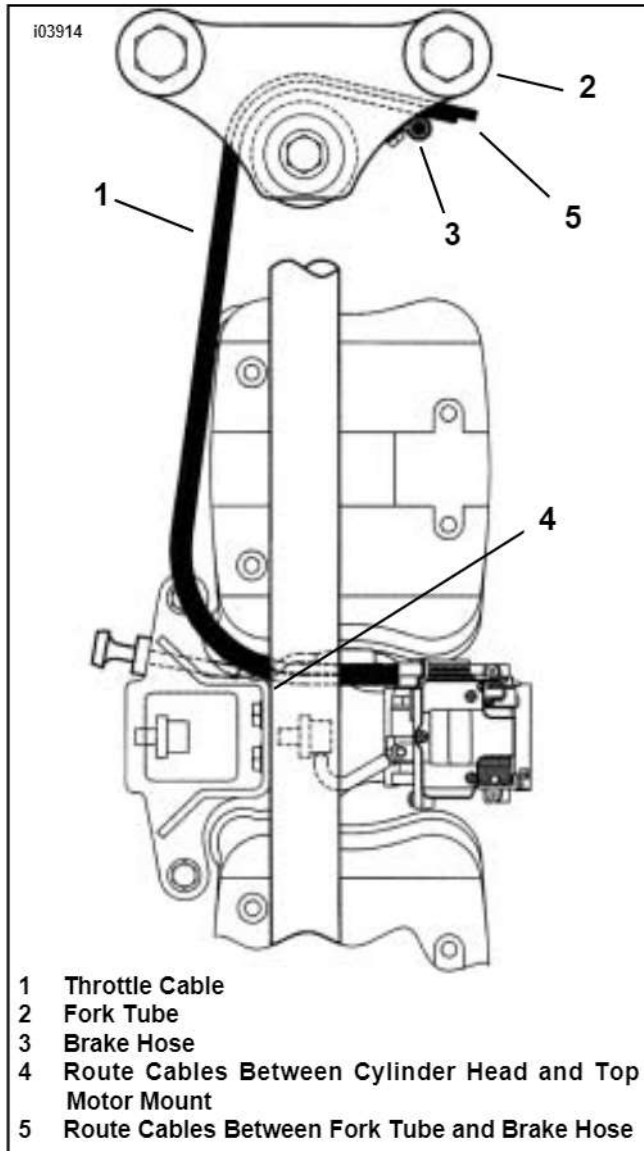

Figure 13. Throttle Cable Routing (1995 to 2003 XL Models)
1. See Figure 13. Route the throttle cables with large radius curves so that they do not interfere with other components.